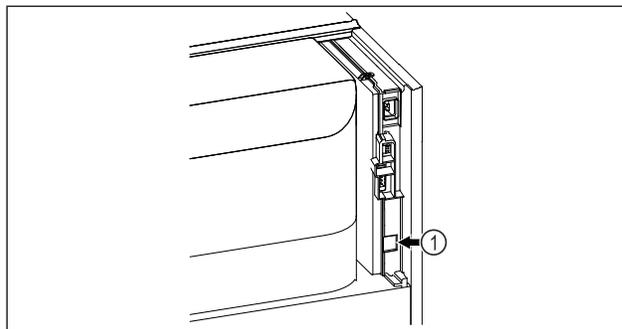

Fig. 130
- SmartModule Fig. 130 (1) is in use.